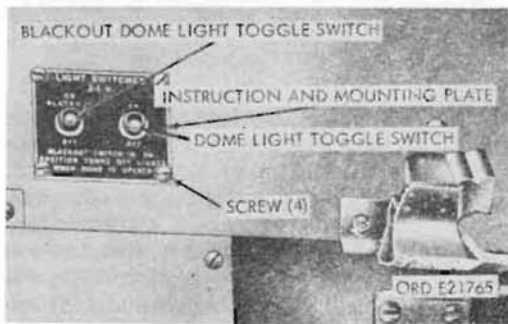
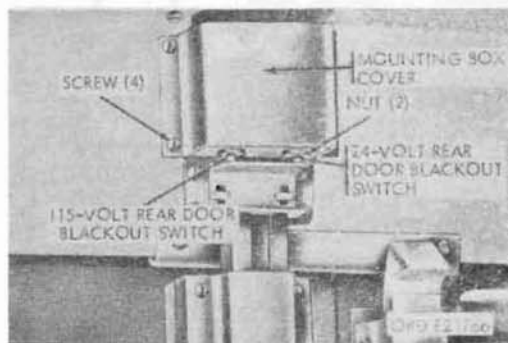

Figure 330. Dome light and blackout dome-light toggle switches
Figure 331. 24-volt and 115-volt rear door blackout switches
dome-light system. A dome-light toggle switch (fig. 330) and a blackout dome-light toggle switch are mounted on the body inside the rear panel on the right of and above the rear doors. The dome-light toggle switch operates the 24-volt dome lights, and blackout dome-light toggle switch inserts the door blackout switch in the 24-volt dome-light circuit. The rear door blackout switches (fig. 331), 24-volt and 115-volt, located above the rear doors on the inside of the body, operate on opening of the right rear door. A 24-volt rear door blackout switch removes power to the 24-volt dome lights on opening of the right rear door. A 115-volt door blackout switch actuates the blackout relay to extinguish the 115-volt dome lamps, leaving only the 115-volt blackout dome light on. There are five 115-volt dome lights, one blue-lens 115-volt blackout dome light, and two 24-volt dome lights. Five receptacles are mounted in each of the two plug-molding strips located on the body side panels just above the side windows. The two
c. The 24-volt dome-light system is supplied with power from the truck batteries through a circuit breaker on the firewall of the truck cab to a 24-volt entrance receptacle on the shop van body. A blackout switch on the rear door removes power from the 24-volt dome light when the door is opened during blackout conditions. This feature can be selected by a switch adjacent to the 24-volt dome-light switch (fig. 330). A cutoff switch is mounted in the 115-volt power switch box to cut out the 24-volt dome-light circuit when 115-volt power switch is switched to "ON" position to connect 115-volt ac power to the interior 115-volt van body circuits.
294. Dome-light and Blackout Dome-light Toggle Switches (Fig. 330)
295. 24-Volt and 115-Volt Rear Door Blackout Switches (Fig. 331)